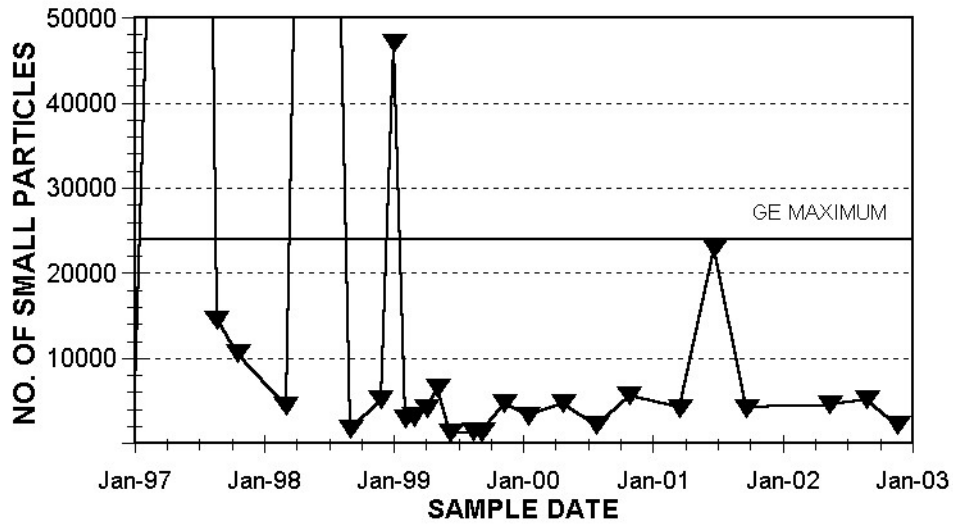

Figure 3: Small Particles (5-10 microns optical count).
**Particle Count:** Much improved with only one spike which would be of concern if associated with any maintenance activity or unusual system operation. Otherwise it could be sampling which should be addressed if it happens again. See Figure 3.